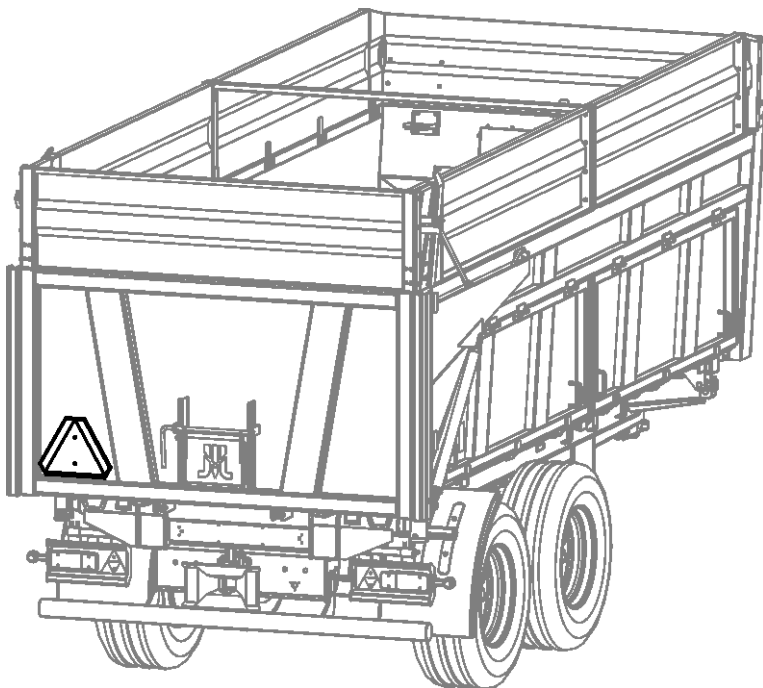

FIGURE 3. Location of the triangular board of slow-moving vehicles.
- On the rear wall there must be placed the triangular board distinguishing slow-moving vehicles if the trailer is the last vehicle in the group (figure 3).